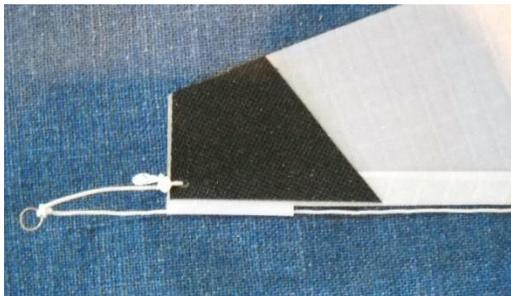
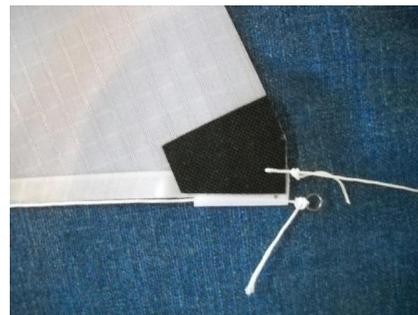

Figure 1
Figure 2
- Jib has double line at clew for attachment to boom. Forestay was installed terminating top and bottom in a small metal ring (A much used "Graphite" fitting!). Halyard also attached to the upper metal ring (Figure 1). A downhaul line is attached to the tack for attachment to a boom sliding adjuster (collet) (Figure 2).